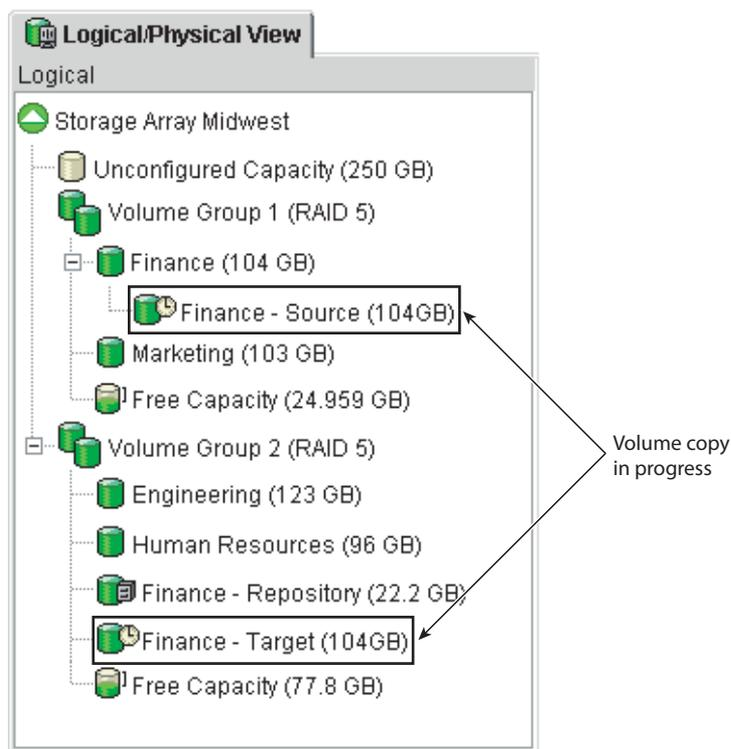

Figure 4-28 Creating a Volume Copy
- 4. Use the Create Copy Wizard to create a new volume copy between the snapshot volume and the target volume, as shown in Figure 4-28.